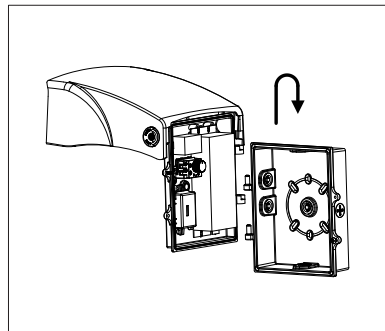
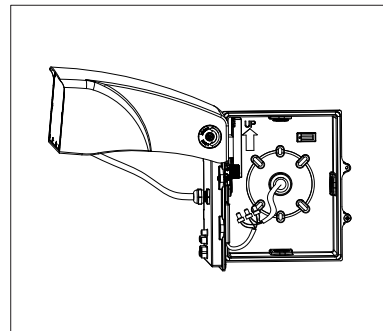

Figure 10
Figure 11
**STEP 7:** Fasten the radiator to the driver box and connect the wires properly (Figure 10 & Figure 11)